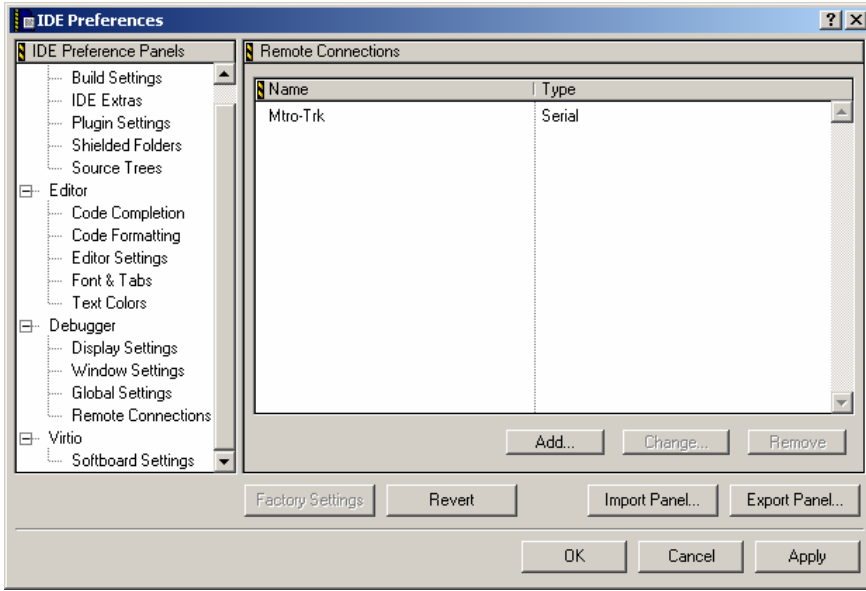

FIGURE 19 The IDE Preferences dialog box.
1. Select Preferences from the Edit menu. The IDE Preferences dialog appears (Figure 19). Press the Add button to add (create) a new connection.